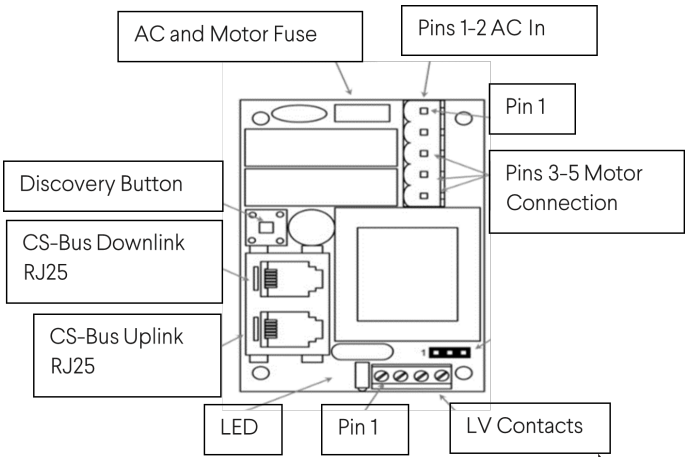

Figure 26. IMC control board schematic
The IMC has the capability of being operated through a wall switch, infrared remote, radio frequency remote, internet protocol (IP), with (optional e-Node) control system, and a screen trigger through a projector. The IMC is the most robust controller offered for RS1. For a detailed look at what the IMC has on board, please see below (see Figure 26).